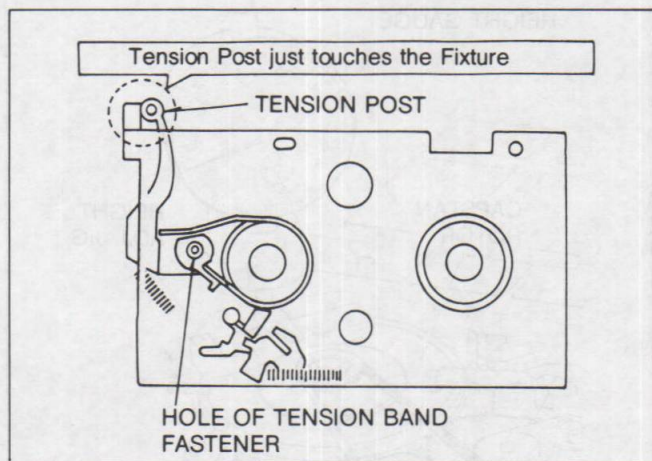

Fig. M4
4. Place the Adjustment Plate and insert the hex wrench into the hole of Tension Band Fastener as shown in Fig. M4.